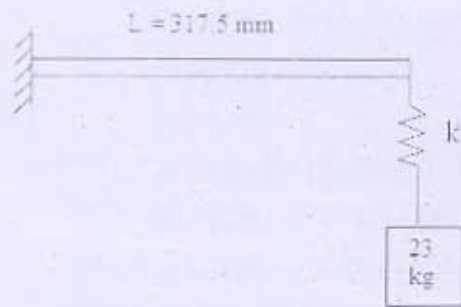

Figure 1
2. Determine the natural frequency of the system shown in Figure 1 consisting of 23 kg mass attached to a horizontal cantilever beam through coil spring k . The